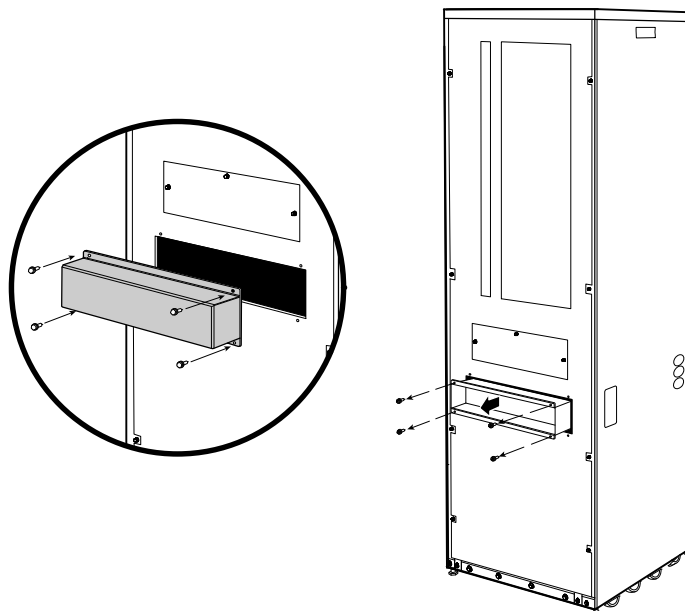

Figure 19. Reversing the Options Cabinet Conduit Landing Box
1. Remove the Options Cabinet conduit landing box from the rear panel and retain (see Figure 19).
8. Reinstall the Options Cabinet conduit landing box in the reversed position (see Figure 19).
1. Remove the Options Cabinet conduit landing box from both Options Cabinet rear panels and retain (see Figure 19 on page 30).
9. Reinstall both Options Cabinet conduit landing boxes in the reversed position (see Figure 19 on page 30).
8. Reinstall both Options Cabinet conduit landing boxes in the reversed position (see Figure 19 on page 30).